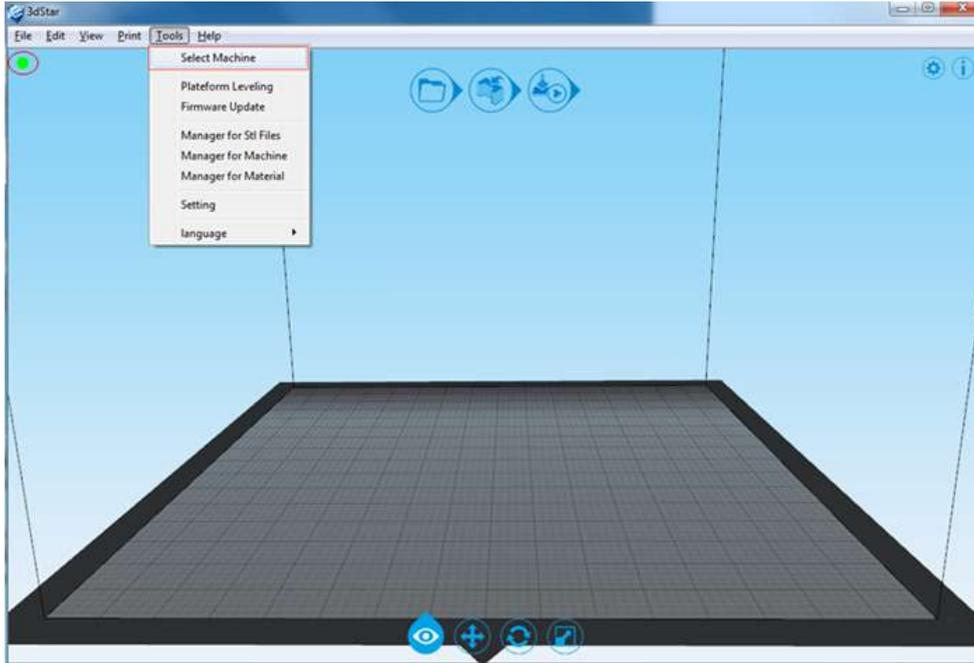
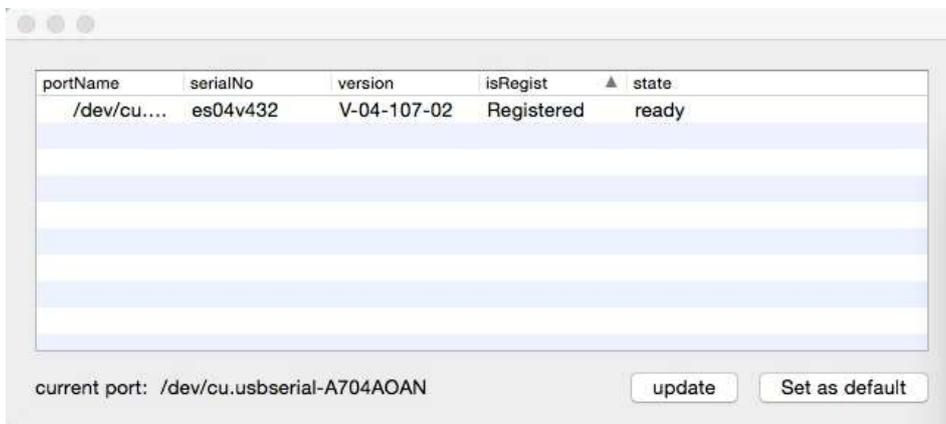

Figure 4.2
Figure 4.4
5. If status button is gray, choose serial device which is found from menu “Tools”->”select machine”, see figure 4.2 and 4.3 for Windows or figure 4.4 for Mac OS for serial choose.